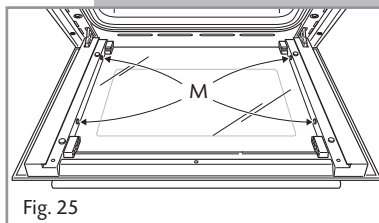

Fig. 25
- Check that the four rubber pads are in place (**M** in fig. 25).